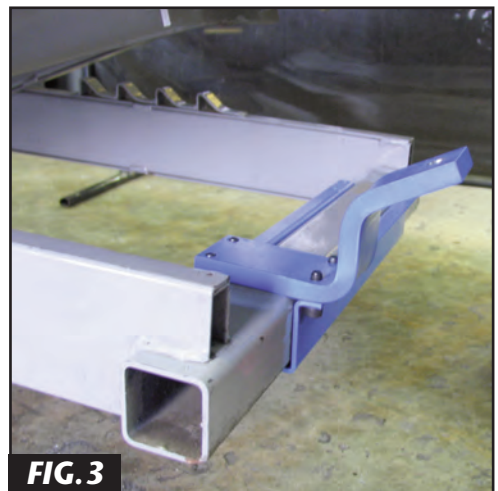

FIG. 3
4. Place one caster mount No. 776-1 over the top of frame mount No. 776-2. with the mount lip cutout area facing the front of the lift as shown. Certain lifts require this clearance. Align it with the 4 mounting holes and thread in all 4 screws No. 2103. Do the same with the other caster mount. Torque bolts in a criss-cross pattern to 15 ft-lb. **See Fig 3.**